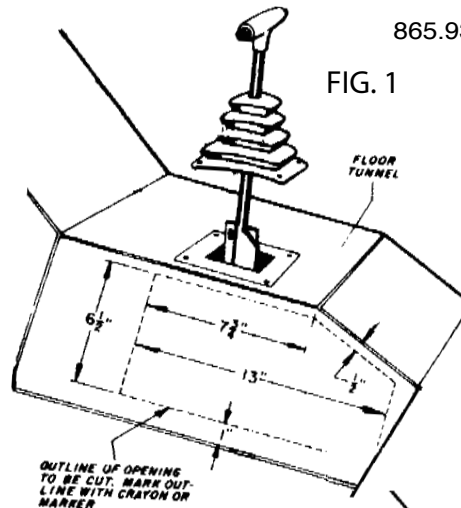

FIG. 1
1. Lay out the dimensions for the hole to be cut in the transmission tunnel, see Fig. 1. Verify position of cut by placing the tunnel cover over the intended cut lines and insuring they fall under the cover.